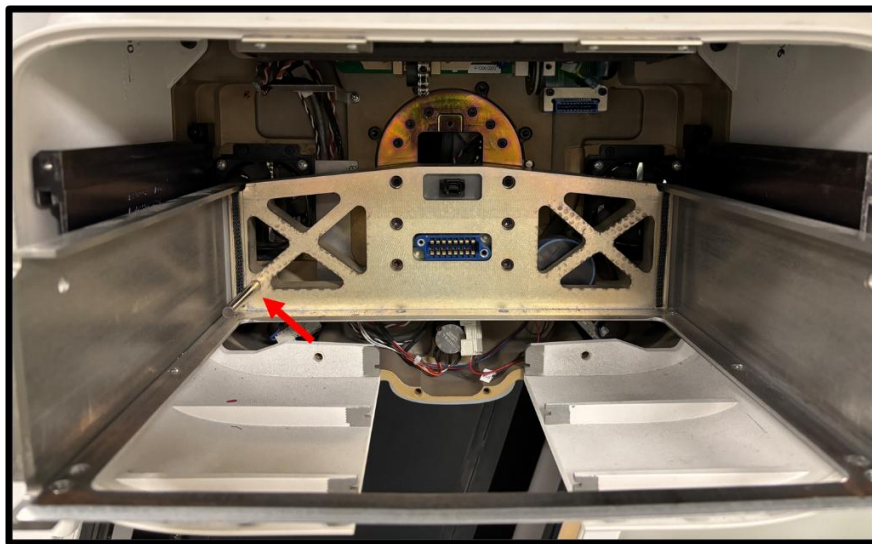

Figure 12 - C-Arm/Detector Alignment Pin in Alignment Hole
17. Place the TLS-01065 C-Arm/Detector Alignment pin into the alignment holes for the detector as shown in Figure 12 to align the gears and white VTA belts.